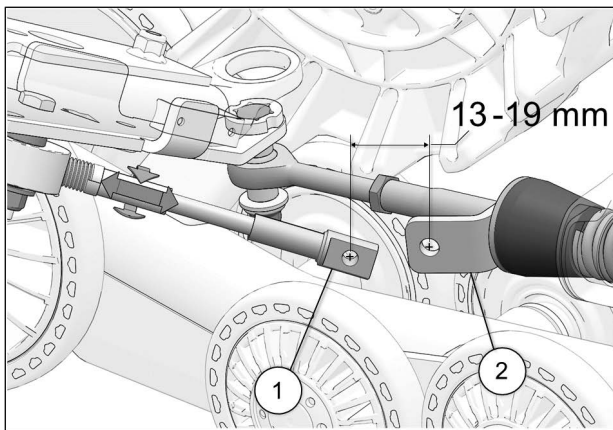

Fig. 30
16. Turn the vehicle's steering wheel to its maximum point of travel on the left. While maintaining pressure on the steering wheel, turn threaded rod to adjust length of cable. See Fig. 30
17. Position cable end hole (1) 13-19mm short of support plate (2) mounting hole. See Fig. 30